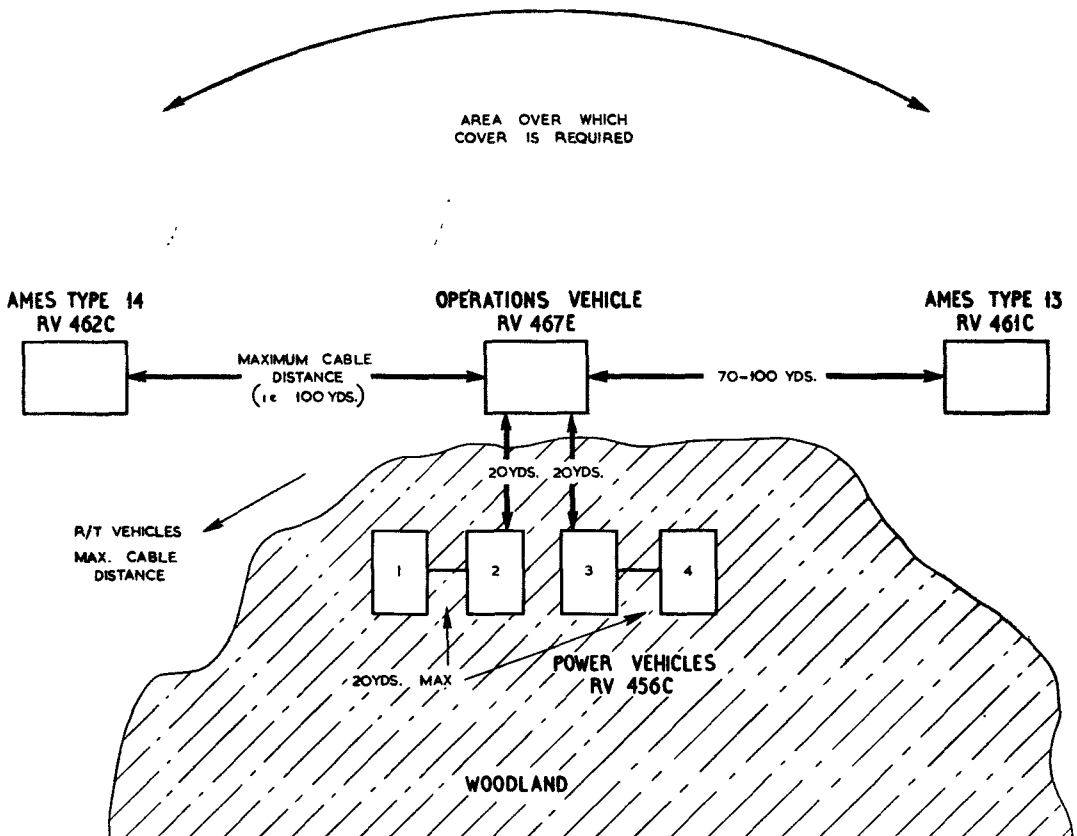

Fig. 1. AMES Type 21 Mk. 5: example of site layout
10. Full details of the connections between vehicles are given in Chapter 2 but a suggested layout of the site is given in fig. 1.
**18.** The other vehicles in the convoy must by reason of the length of the cables lie within 100 yards of the aerials. Thus some screening by them is inevitable but can be reduced to a minimum by using the full lengths of the cables as shown in fig. 1.